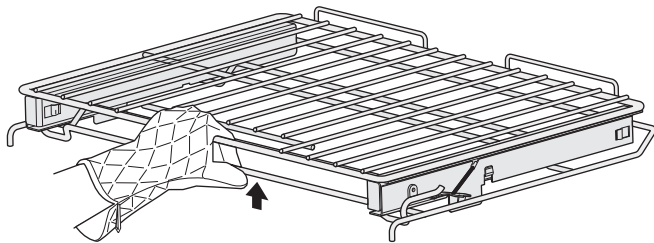

Figure 3: Grasp handle and lift up on bar
**To remove** - Using one hand, reach through handle opening and lift up on the release lever located across the lower front of the rack as shown in figure 3.